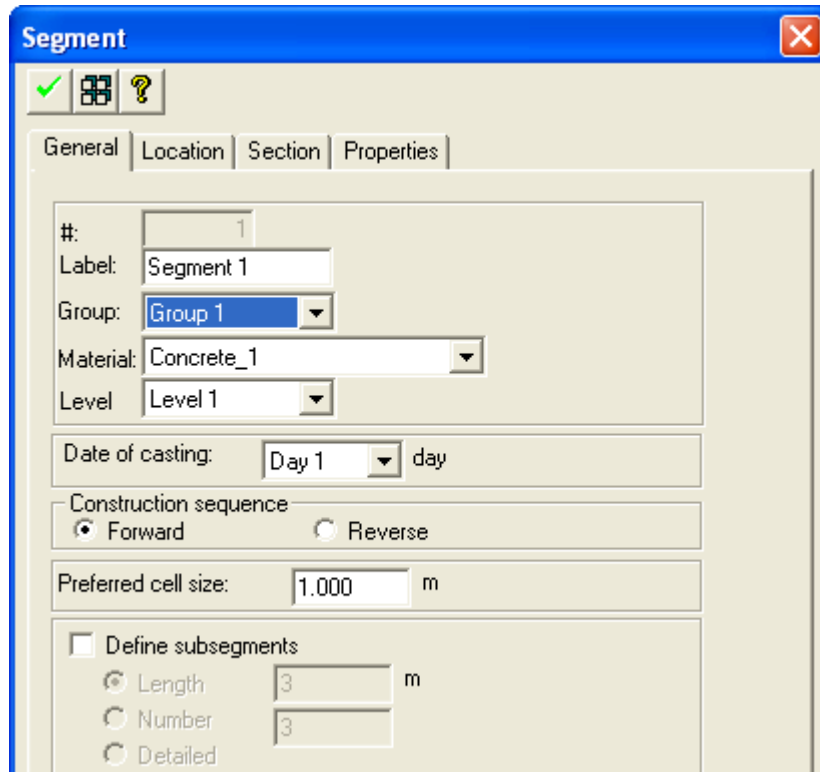

FIGURE 2.14-1 SEGMENT PROPERTY BOX
Create Segment. This tool creates a new segment with the corresponding properties in the dialog box shown in **Figure 2.14-1**. To create a segment, use the following procedure:
- Click on the Create Segment  tool. The dialog box shown in **Fig. 2.14-1** will open if you click on the Item's Properties button .